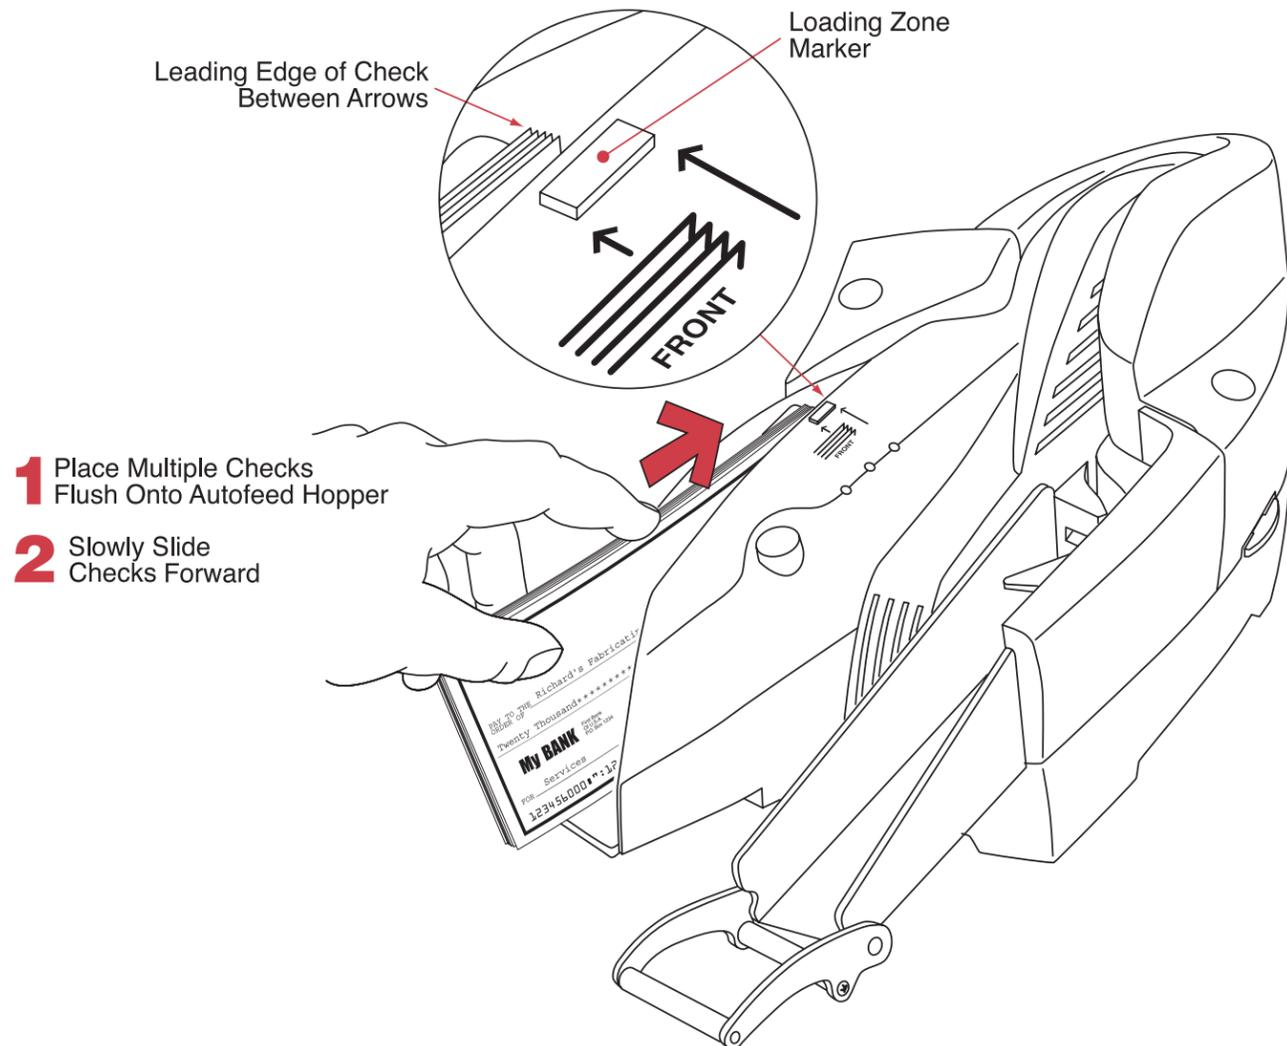

Figure 1. Stacking Checks in Input Hopper
1. Stack the checks in the Input Hopper as shown in Figure 1.
2. Slide the deck forward to the Loading Zone Marker so that all leading edges are between the arrows as shown in Figure 1.